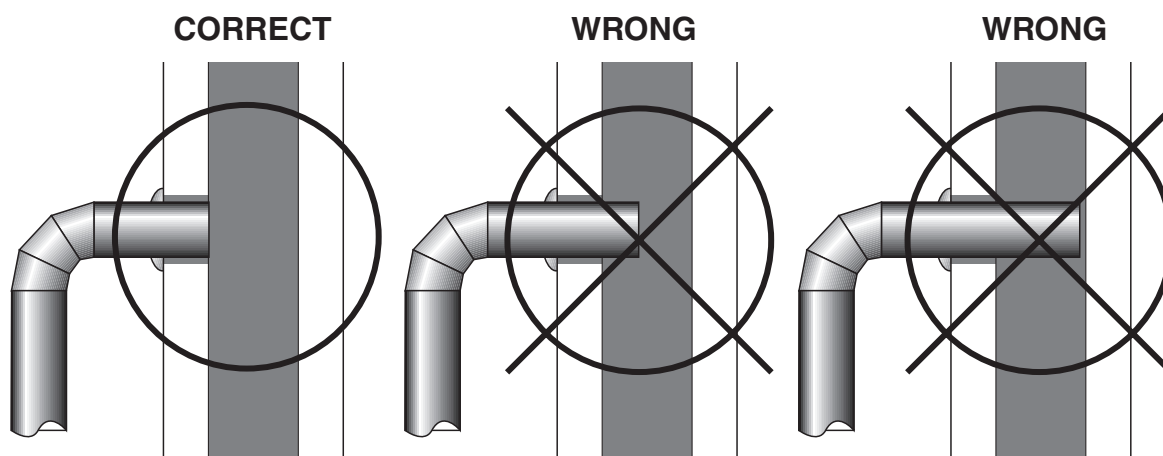

Fig. 10 – Stovepipe/Flue Connections
4. The pipe cannot extend into the chimney flue (figure 10).
5. Secure pipe/elbow sections with three (3) sheet metal screws at each joint to make the piping rigid. Screws may be no more than 3"/76mm apart.
6. It is recommended that no more than two (2) 90° bends be used in the stovepipe installation. The use of more than two 90° bends may decrease the amount of draw and possibly cause smoke spillage. Where possible, use only corrugated (nonadjustable) elbows. These provide a better seal.
2. Install a fire clay (5/8” minimum thickness) thimble. Make sure the thimble is flush with the inner surface of the chimney liner and does not protrude into the flue (see figure 10).
4. Install the stovepipe into the thimble as far as possible without extending past the flue lining (see figures 10 & 11).